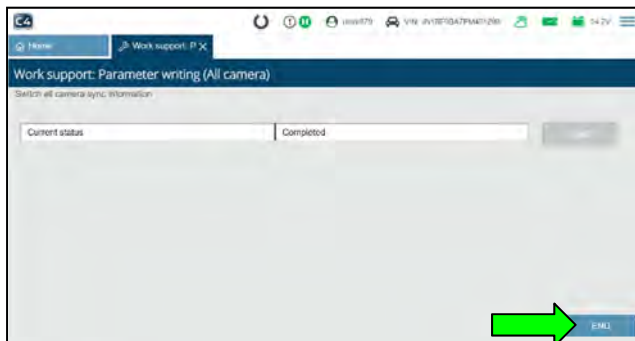

Figure 13
- It may take up to 5 minutes for the screen in Figure 13 on page 9 to display once the green Play icon is selected.
- If the **Parameter writing** is successful (Figure 13), select **END** and then continue to step 14 on page 10.